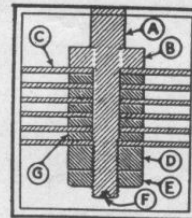

Figure 6.
The rotor plates (see Fig. 6) are spaced by micrometer brass spacers (G), which are very accurately finished. The surfaces are broad and afford ample area to maintain the rotor plates flat and in perfect parallel with the stator plates. The pressure on the rotor plates and spacers is very great, one end (A) being locked against the steel collar spacer (B), which rides on the shaft (A-F), and the other end being washer-locked by a thread on the shaft, and a hexagonal lock nut (E), which is tightened by a heavy wrench. As the diameter across the washers is nine-sixteenths of an inch, it is practically impossible to get any of the rotor plates to turn on the shaft.